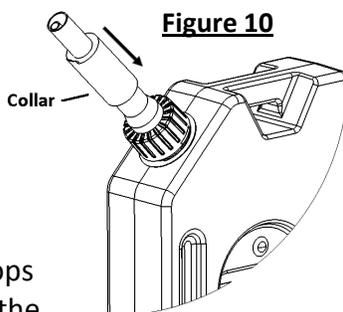

Figure 10
Step 3 – Before pouring from your Fuel Pack, pull firmly down on the midsection collar to release any pressure buildup in the Fuel Pack (see **Figure 10**).